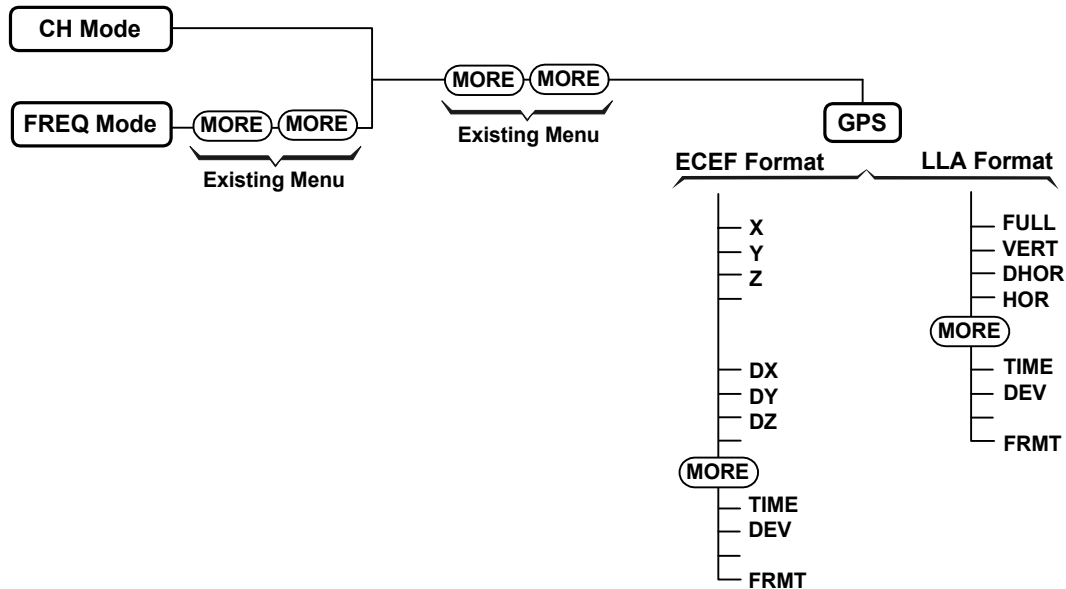

Figure 11. GPS Menu
The GPS menu is displayed by selecting the **GPS** item on the **FREQ** or **CH** menu. The GPS menu structure is shown in Figure 11.
1. Press the key next to the type of information you want to see: use Figure 11 to find the key.